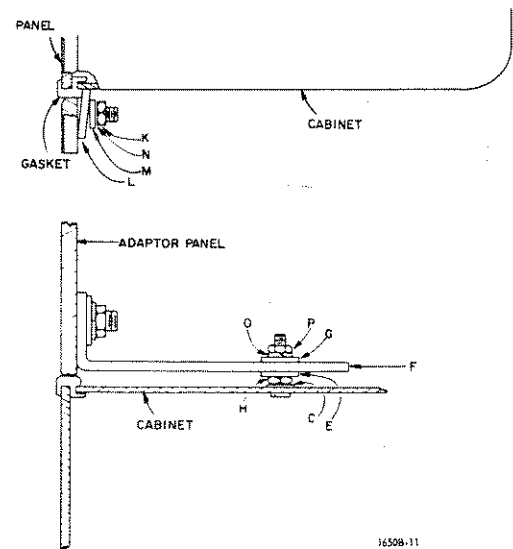

Figure 1-5. Detail view of panel mounting.
u. Loosen nuts K and slide plates L over the rubber gasket (Figure 1-5). Tighten nuts K.